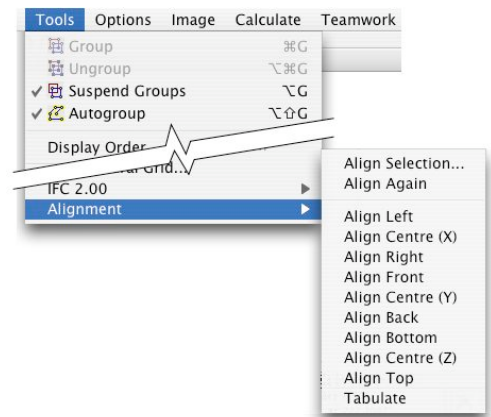

Fig. 4.74
- Select 'Align Selection' from the 'Tools/Alignment' menu (Fig 4.74).